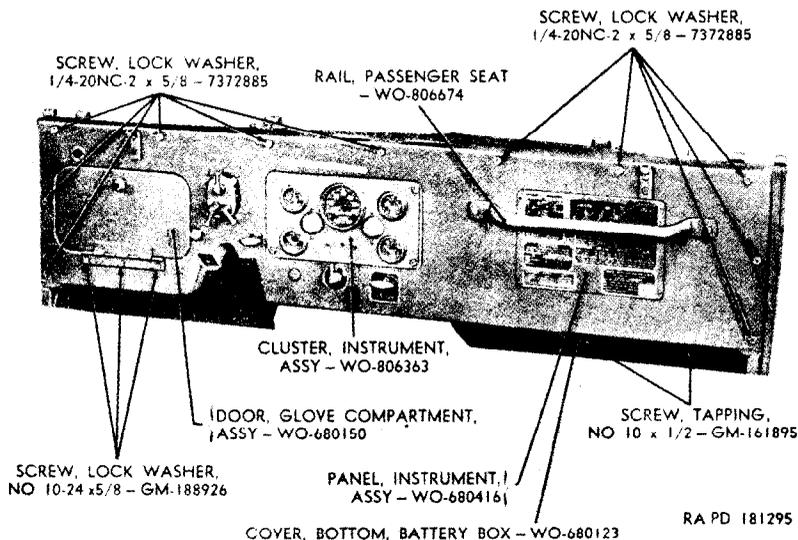

Figure 159. Instrument panel installed.
a. Instrument Panel. To remove instrument panel (fig. 159) from body, proceed as follows:
- (1) Remove seven lockwasher screws securing instrument panel to top of body cowl.
- (2) Remove six lockwasher cap screws which secure right bottom side of instrument panel to the battery box brackets.